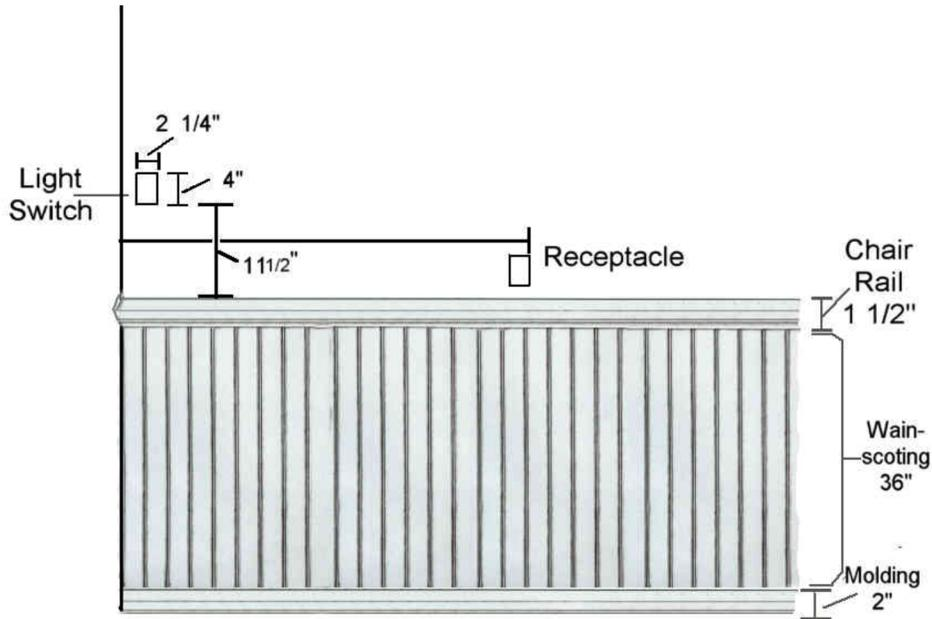

Figure 1: Residential wall with wainscoting and chair rail
The drawing in Figure 1 shows a light switch and receptacle installed on a wall that has wainscoting, baseboard moulding and a chair rail. Each panel of wainscoting measures 3 inches by 36 inches. The baseboard moulding is 2 inches high and the chair rail is 1 inches high. The light switch and receptacle measure 2 inches by 4 inches each. Questions 18 – 20 refer to Figure 1.
19. In Figure 1, what is the height of the wall from the floor to the bottom of the light switch?
20. You have been asked to install a receptacle on a wall similar to the one in Figure 1. The receptacle is to be installed above the chair rail, so that the right side of the receptacle is 7' 3" from the left side of the wall. If the wainscoting panels are 3 inches wide, how many panels would be to the left of the receptacle?